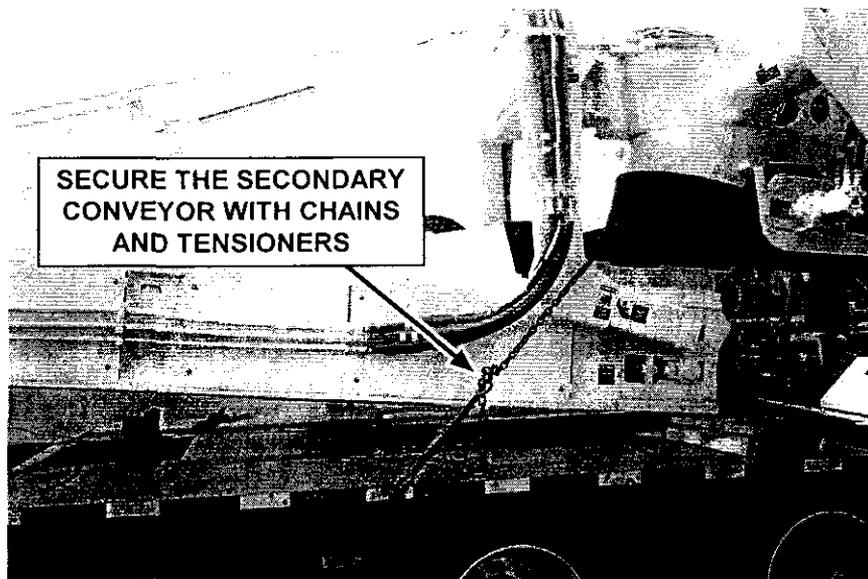

FIGURE 70
25. Use chains and tensioners to secure the secondary conveyor from swinging during transport (figure 70).